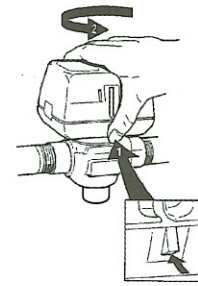

Fig. 3. Actuator Head Removal.
4. The actuator head is automatically latched to the valve. To remove, press up on the latch mechanism located directly below the red manual open lever with thumb (See Figure 3). Simultaneously press the actuator down towards the body with moderate hand force and turn the actuator counter-clockwise by 1/8 turn (45 degrees). Lift actuator off the valve body.